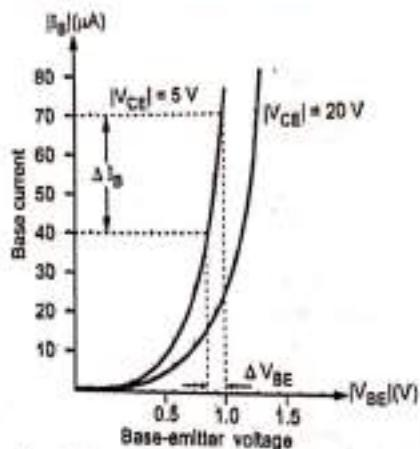

Fig. Q.11.1 Input characteristics of the transistor in CE configuration
- Input characteristics is the curve between input voltage  $V_{BE}$  (base-emitter voltage) and input current  $I_B$  (base current) at constant collector-emitter voltage,  $V_{CE}$ . The base current is taken along Y-axis and base-emitter voltage  $V_{BE}$  is taken along X-axis. Fig. Q.11.1 shows the input characteristics of a typical transistor in common-emitter configuration.